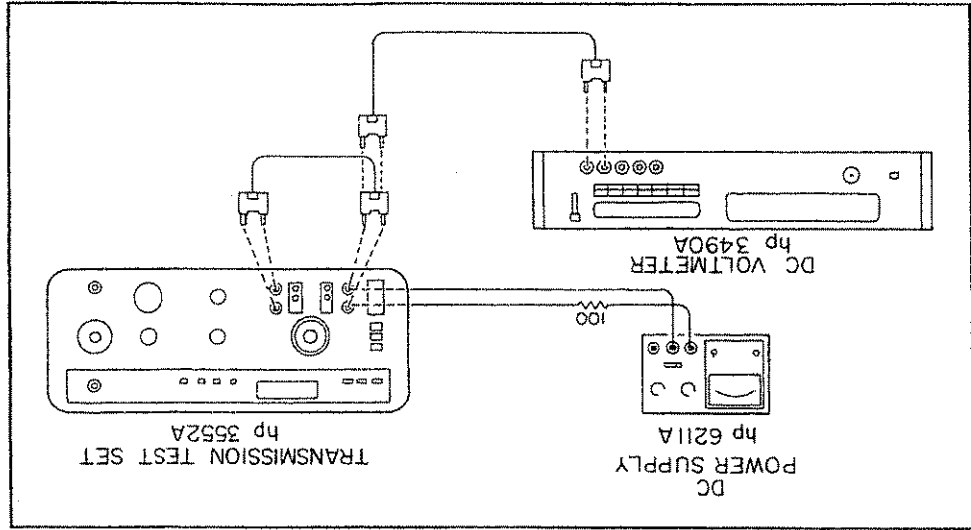

Figure 5-9. Hold Circuit Test.
j. Connect the left (receive) terminals to the right (send) terminals, and connect a dc voltmeter to the left terminals as indicated in Figure 5-9.
l. Connect the left (receive) terminals to the right (send) terminals, and connect a dc voltmeter to the left terminals as indicated in Figure 5-9.